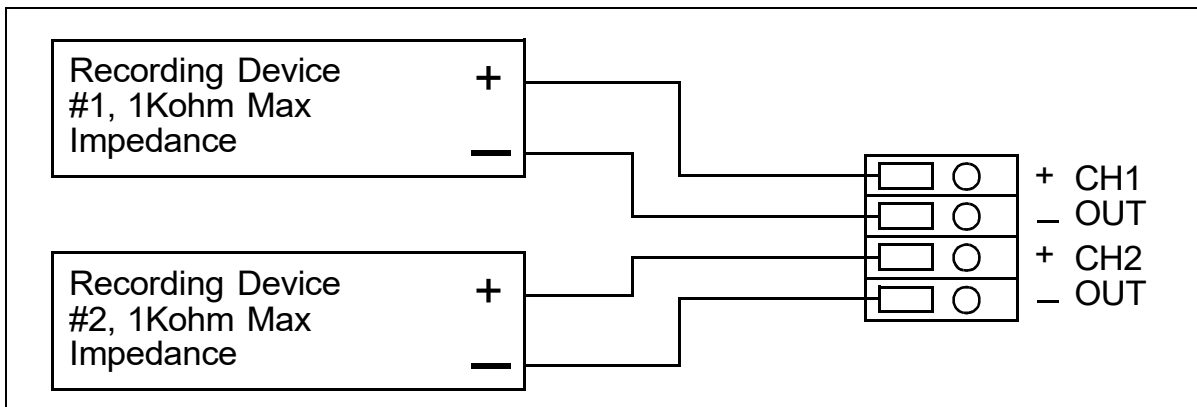

Figure 10. Recorder Output Wiring
5. Connect the wires from the recording device to the recorder output terminals as shown in Figure 10.